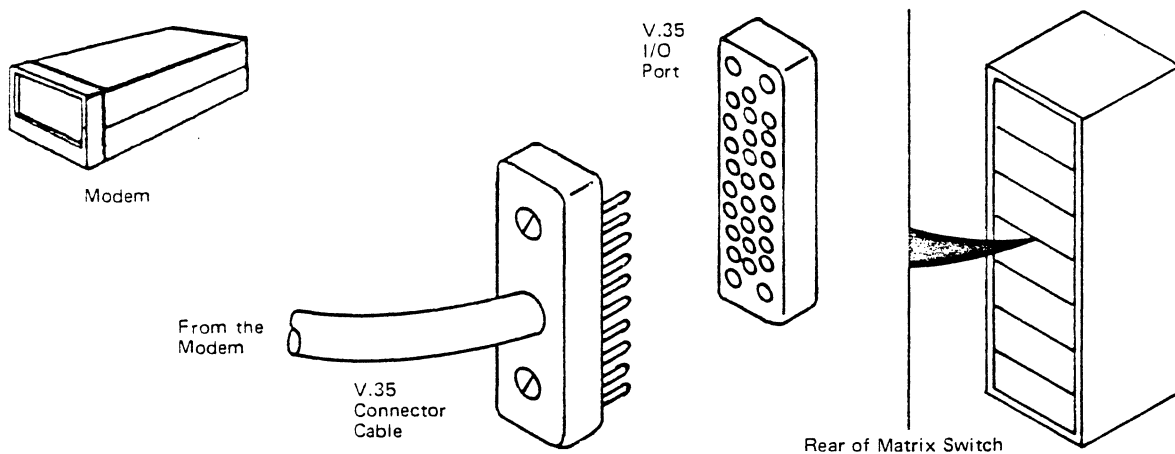

Figure 8-16. V.35 Modem Connection
1. Connect the V.35 cable to the modem's V.35 connector (Figure 8-16).